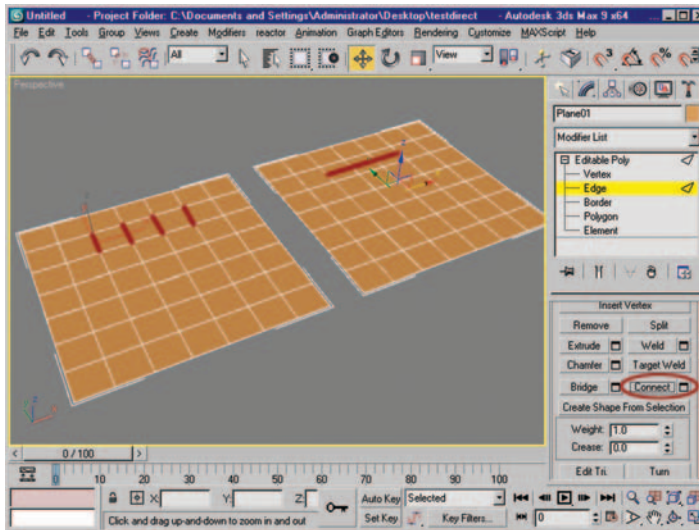

Figure 6.47 Edge selection and new edges resulting from Connect.
3. In the Edge subobject level, select the four edges shown in Figure 6.47, and use Connect to create a new set of edges.